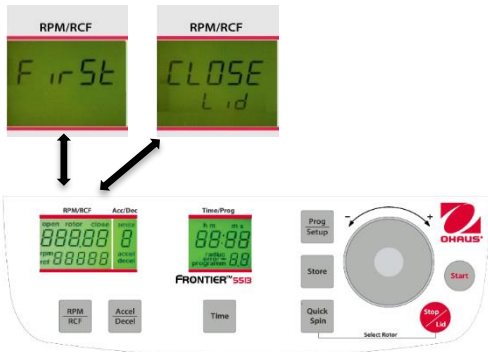
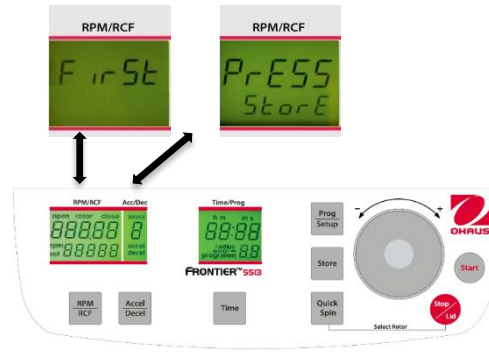

Figure. 21
Figure. 22
Close the lid of the centrifuge. Now proceed as described previously to set all important run parameters. If the lid isn't closed when storing the program, in the display **"RPM/RCF"** (A-1), the words **"FirSt"** and **"CLOSE Lid"** (See figure 21) flashes alternately. If you want to start the run without storing the program, in the display **"RPM/RCF"** (A-1), the words **"First"** and **"PrESS StoreE"** (See figure 22) flashes alternately.
For adaption of data press the key **"Store"** (2) (refer to figures 21 and 22) for approx. 1 second. If the program is stored correctly, the word **"StorE"** appears in the display **"RPM/RCF"** (A-1). As a result, the word **"programm"** (M10) disappears.